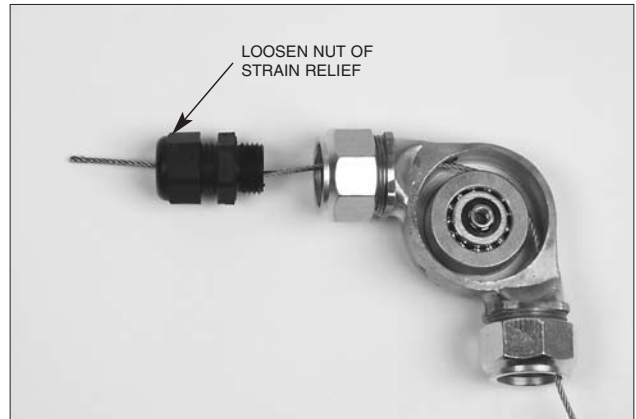

Figure 4-51.
4. Loosen the nut on the strain relief and thread the wire rope through the strain relief. See **Figure 4-51**.